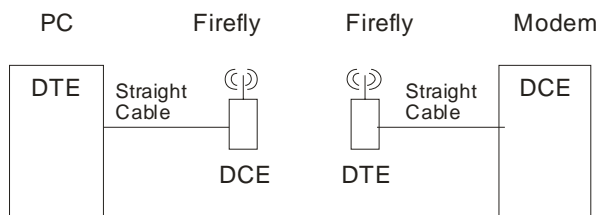

Figure 11 - Firefly radio link
A pair (2) of Firefly wireless radios will allow you to remove the straight cable and replace it with a wireless connection. The connection looks something like Figure 11.